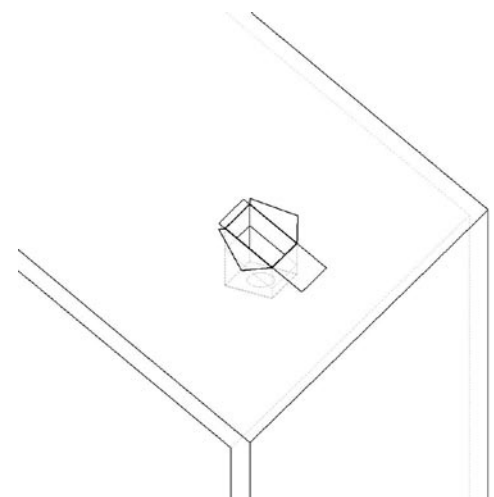

FIGURE 20
7. Using tin snips, cut the Support Box from the top corners down to the roof line, and fold the resulting flap over the roof sheathing. Before nailing it to the roof, run a bead of non-hardening sealant around the outside top edges of the Support Box so as to make a seal between the box and the roof. Clean out any combustible material or debris from inside the Support Box. See Figure 20.